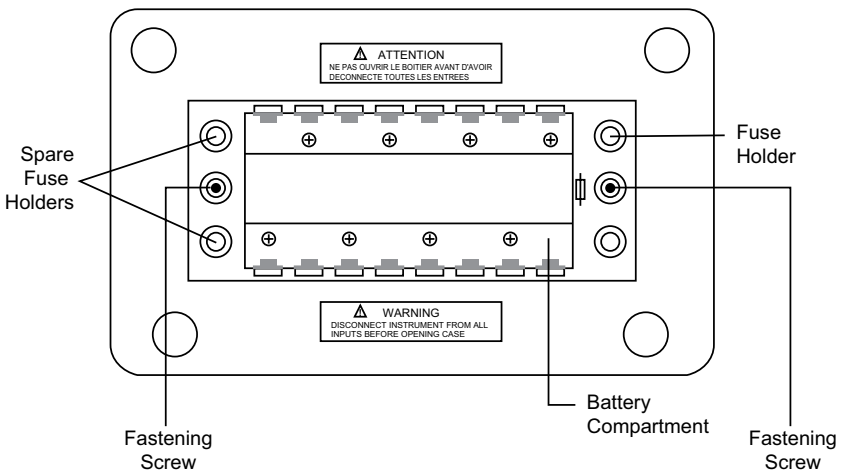

Figure 12
- Loosen the two fastening screws on the battery compartment cover, which is located on the bottom of the case (See Figure 12).